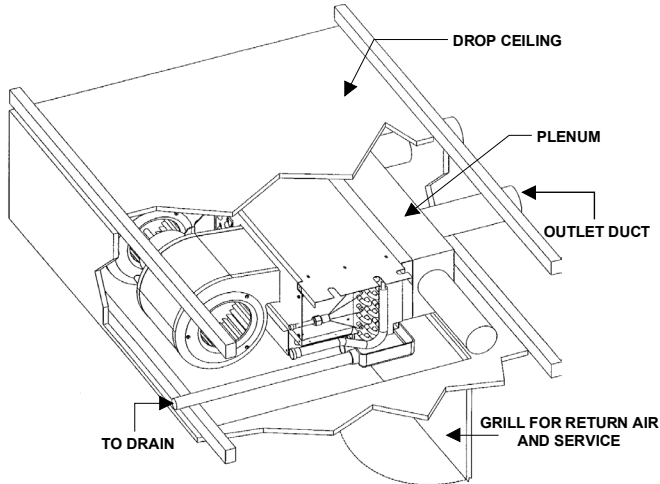
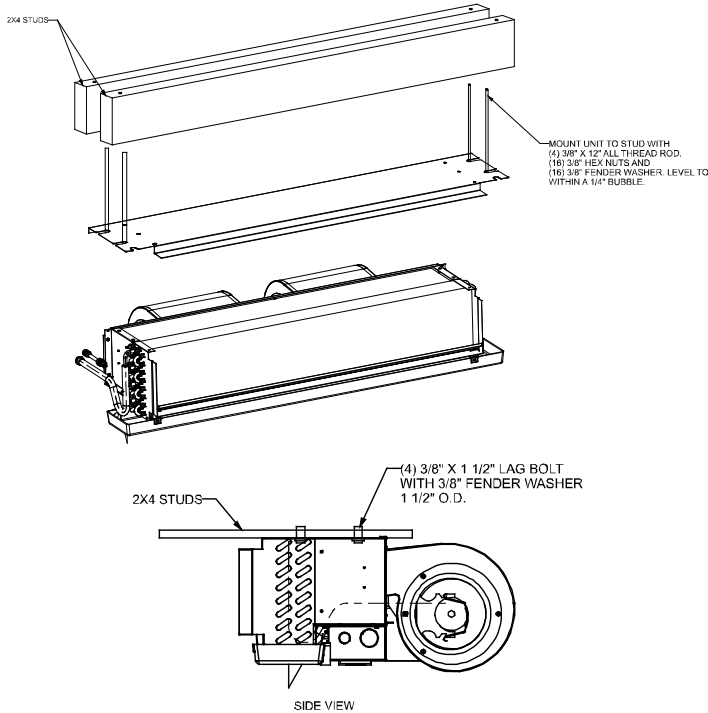

Figure 3
Figure 4
2. Mount the unit in a horizontal position above a dropped ceiling of adequate strength. Refer to Figure 3. Refer to Figure 4 for proper mounting methods.